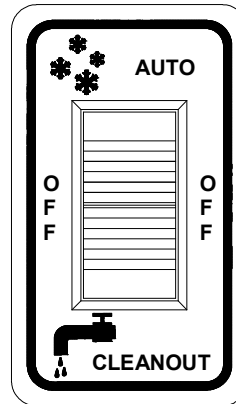

Fig. 25
5. Set the control switch (Fig. 25) to the “**CLEANOUT**” position and let the unit agitate for approximately three to five minutes.